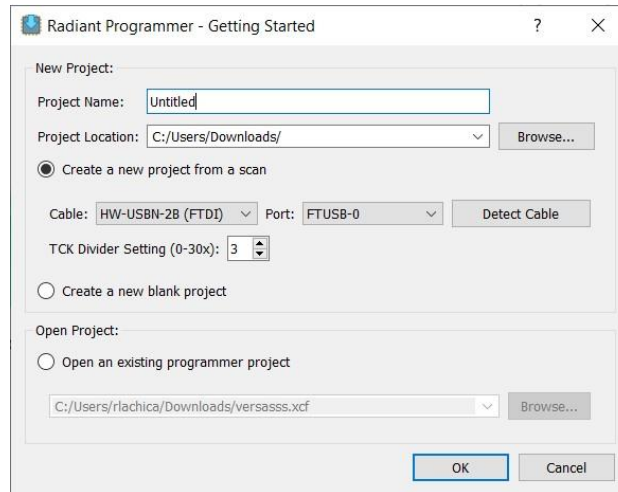

Figure 6 Stand-alone Radiant Programmer Opened from Windows Start Menu
4. You can see the selected project opened in the Programmer (Figure 6).